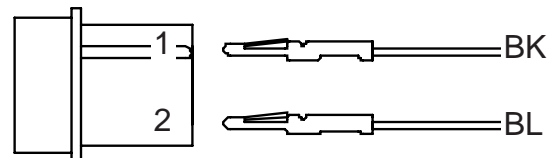

FIGURE 12
2. LOCATE ONE 4 PIN CONNECTOR AND ONE 3 PIN CONNECTOR IN HARDWARE KIT. **FIGURE 12** INSTALL 4 PIN CONNECTOR ON **RED, BROWN, GREEN, AND YELLOW** SWITCH WIRES. INSERT **BLACK WIRE** FROM SWITCH TO **PIN 1** OF 3-PIN CONNECTOR. INSERT **BLUE WIRE** FROM SWITCH TO **PIN 3** OF 3-PIN CONNECTOR. MAKE SURE BLACK WIRE MATES TO BLACK WIRE WHEN CONNECTING SWITCH TO ECM HARNESS. BLUE WIRE FROM SWITCH HARNESS MATES TO RED WIRE ON ECM HARNESS. **SEE LAST PAGE FOR WIRING DIAGRAM.**